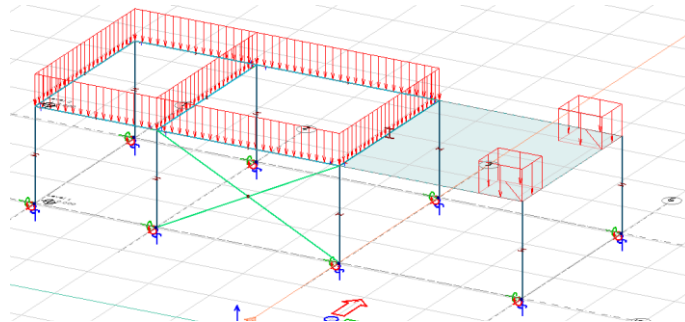
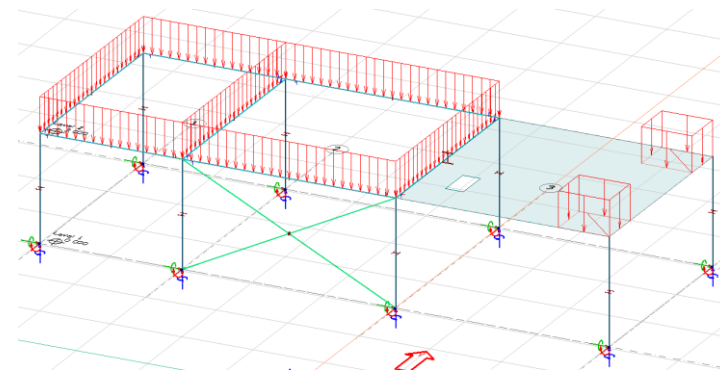

Figure 6-7
Figure 6-9
5. The model has now been adjusted in FEM-Design and some additional area loads have been applied to the concrete floor. The effect is visible in Figure 6-7.
7. FEM-Design model (at the stage as shown in Figure 6-7) has been updated with the newest .struxml file containing changes made in Revit since the previous export. The effect of the update is shown in Figure 6-9 – a hole has been added to the floor, nothing else has changed.